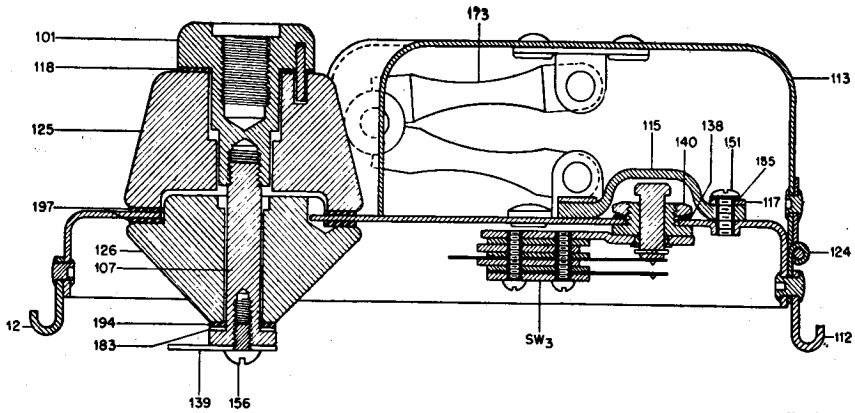

Figure 82. Antenna insulator and calibration switch parts.
d. ANTENNA INSULATOR AND CALIBRATION SWITCH. The antenna insulator consists of a mounting bolt and pin assembly bushing, top and bottom insulator, and fastening bolt together with waterseals and insulator gaskets. (See fig. 82.) A waterproof cover protects the PRESS FOR DIAL LIGHT & CALIB. switch. (See fig. 79.)